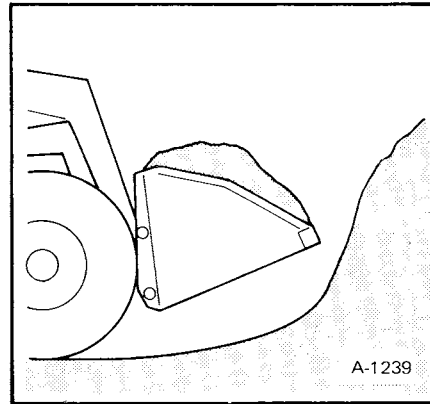

Fig. 20 Filled Bucket
4. When bucket is filled, back away from pile (Figure 20).